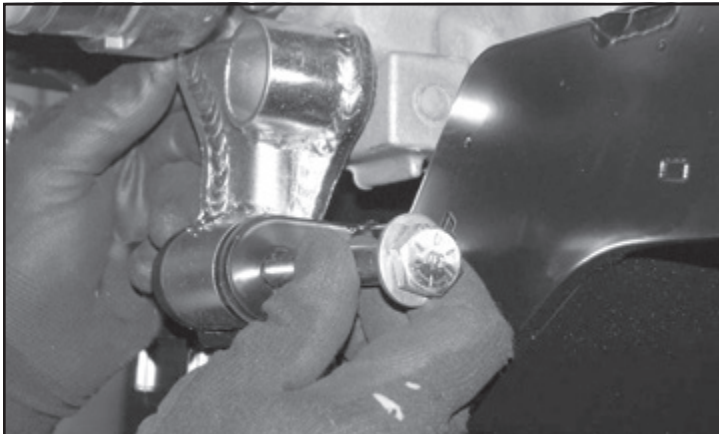

FIGURE 34 - STEP 34
34. Install the rear diff bracket into the tabs on the rear crossmember, in line with the driver side impact tube, using a $\frac{1}{2}$ -13x4" bolt, washers, and nut. **SEE FIGURE 34**